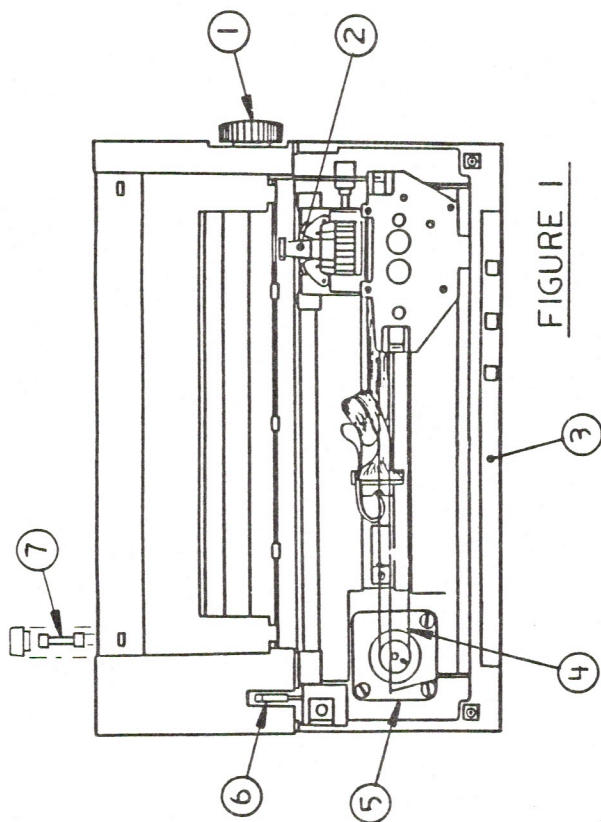

FIGURE 1
**DOT MATRIX PRINTER - MECHANICAL ASSEMBLIES (Figure 1)**